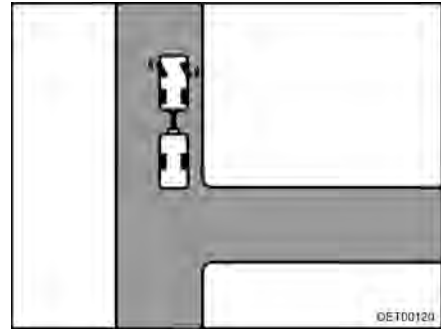

Fig. 14 Steer to the left
- Steer the stationary towing vehicle and trailer to the left (Fig. 14).